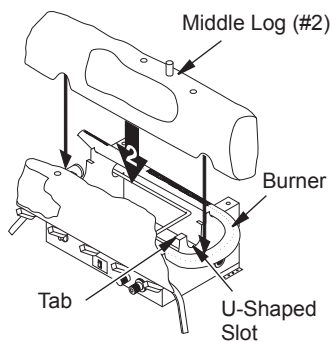

Figure 24 - Installing Middle Log (#2)
2. Place the base of the middle log (#2) in the U-shaped slots of the grate base. The cutout on the right of the middle log should fit over the burner (see Figure 24). Make sure the front of the middle log is resting on the tabs of the grate base.